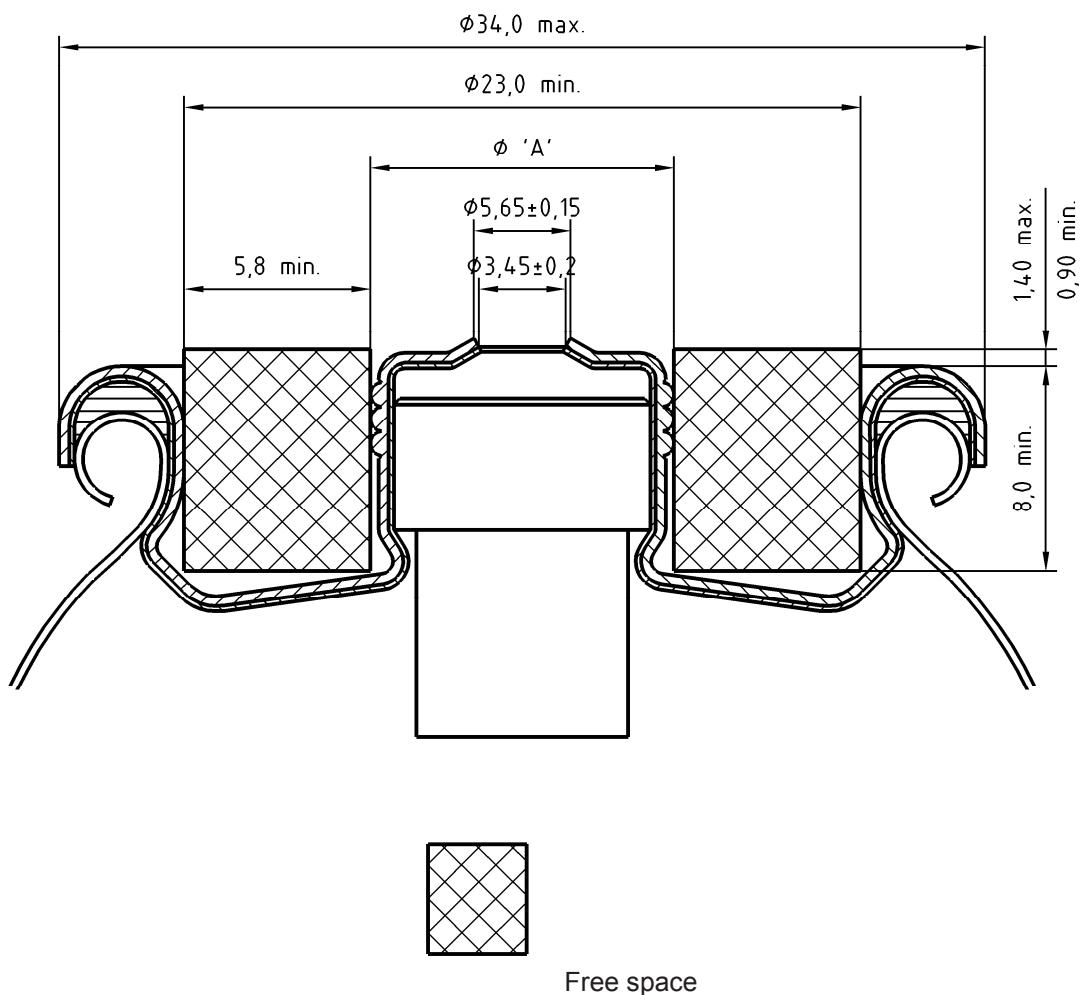

Figure 3 — Section of a threaded centre boss valve cup (type 1)
- d) the top surface of the centre boss shall be raised at an angle of 25° to the horizontal over an area defined by a circle of $(5,65 \pm 0,15)$ mm which is concentric with the major diameter of the thread tolerance: 0,15 mm maximum (see Figure 3);
- e) the raised portion shall be pierced with a circular hole of $(3,45 \pm 0,2)$ mm diameter, concentric with the major diameter of the thread (tolerance: 0,15 mm maximum), (see Figure 3);
- g) when the valve is crimped and the cartridge is filled with gas the flat surface of the boss surrounding the raised area shall be not less than 0,9 mm and not more than 1,4 mm above the plane of the top surface of the cup rim (see Figure 3) and shall be parallel to that plane ($\pm 2^\circ$);
- i) the inner diameter of the swaged cup shall not be less than 23 mm and the outer diameter of the swaged cup shall not exceed 34 mm (see Figure 3). The inner and outer diameters of the swaged cup shall be concentric with the major diameter of the thread (tolerance: 0,3 mm maximum);
- j) when the valve is crimped and the cartridge is filled with gas the horizontal clearance between the centre boss and the inner wall of the valve cup shall not be less than 5,8 mm and shall be maintained over a vertical distance of at least 8 mm below the plane of the flat surface of the centre boss surrounding the raised area (see Figure 3);